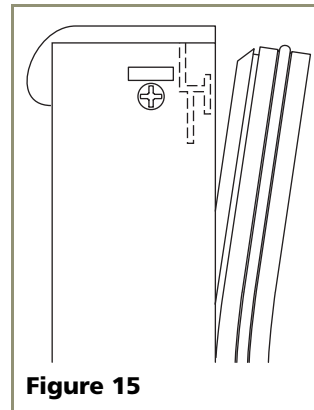

Figure 15
2. Pull door gasket out of groove (top edge of door only). Start in the middle and pull outward, moving toward the edge (see **Figure 15**). This may take some force.